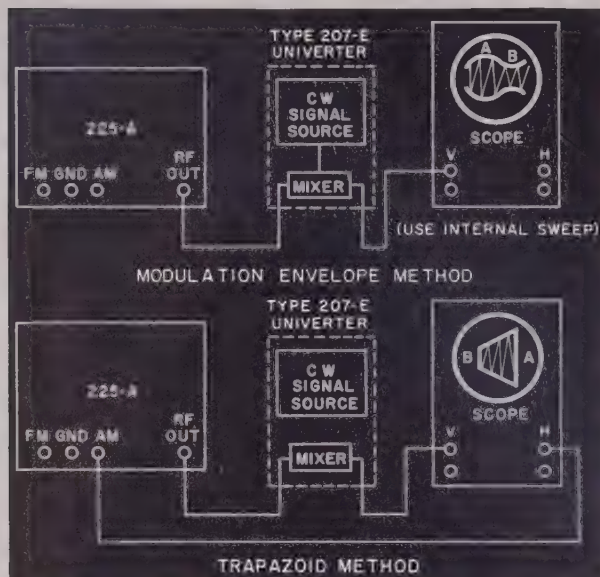

Figure 6. Connections for Calibrating AM
With the 225-A and oscilloscope interconnected as shown in Figure 6, and the AM SELECTOR set to 1000~, the modulated rf output of the signal generator is displayed on the oscilloscope. The maximum (A) and minimum (B) modulation values from the displayed modulation envelope are applied to the equation:
For the trapezoidal method, the modulating audio signal is connected from the AM EXT MOD posts on the 225-A, with the AM SELECTOR in the EXT MOD position, to the "X" axis of the oscilloscope as shown in Figure 6 to produce a trapezoidal pattern. The maximum (A) and minimum (B) modulation values are then applied to the same equation used above, and the percent AM is computed.